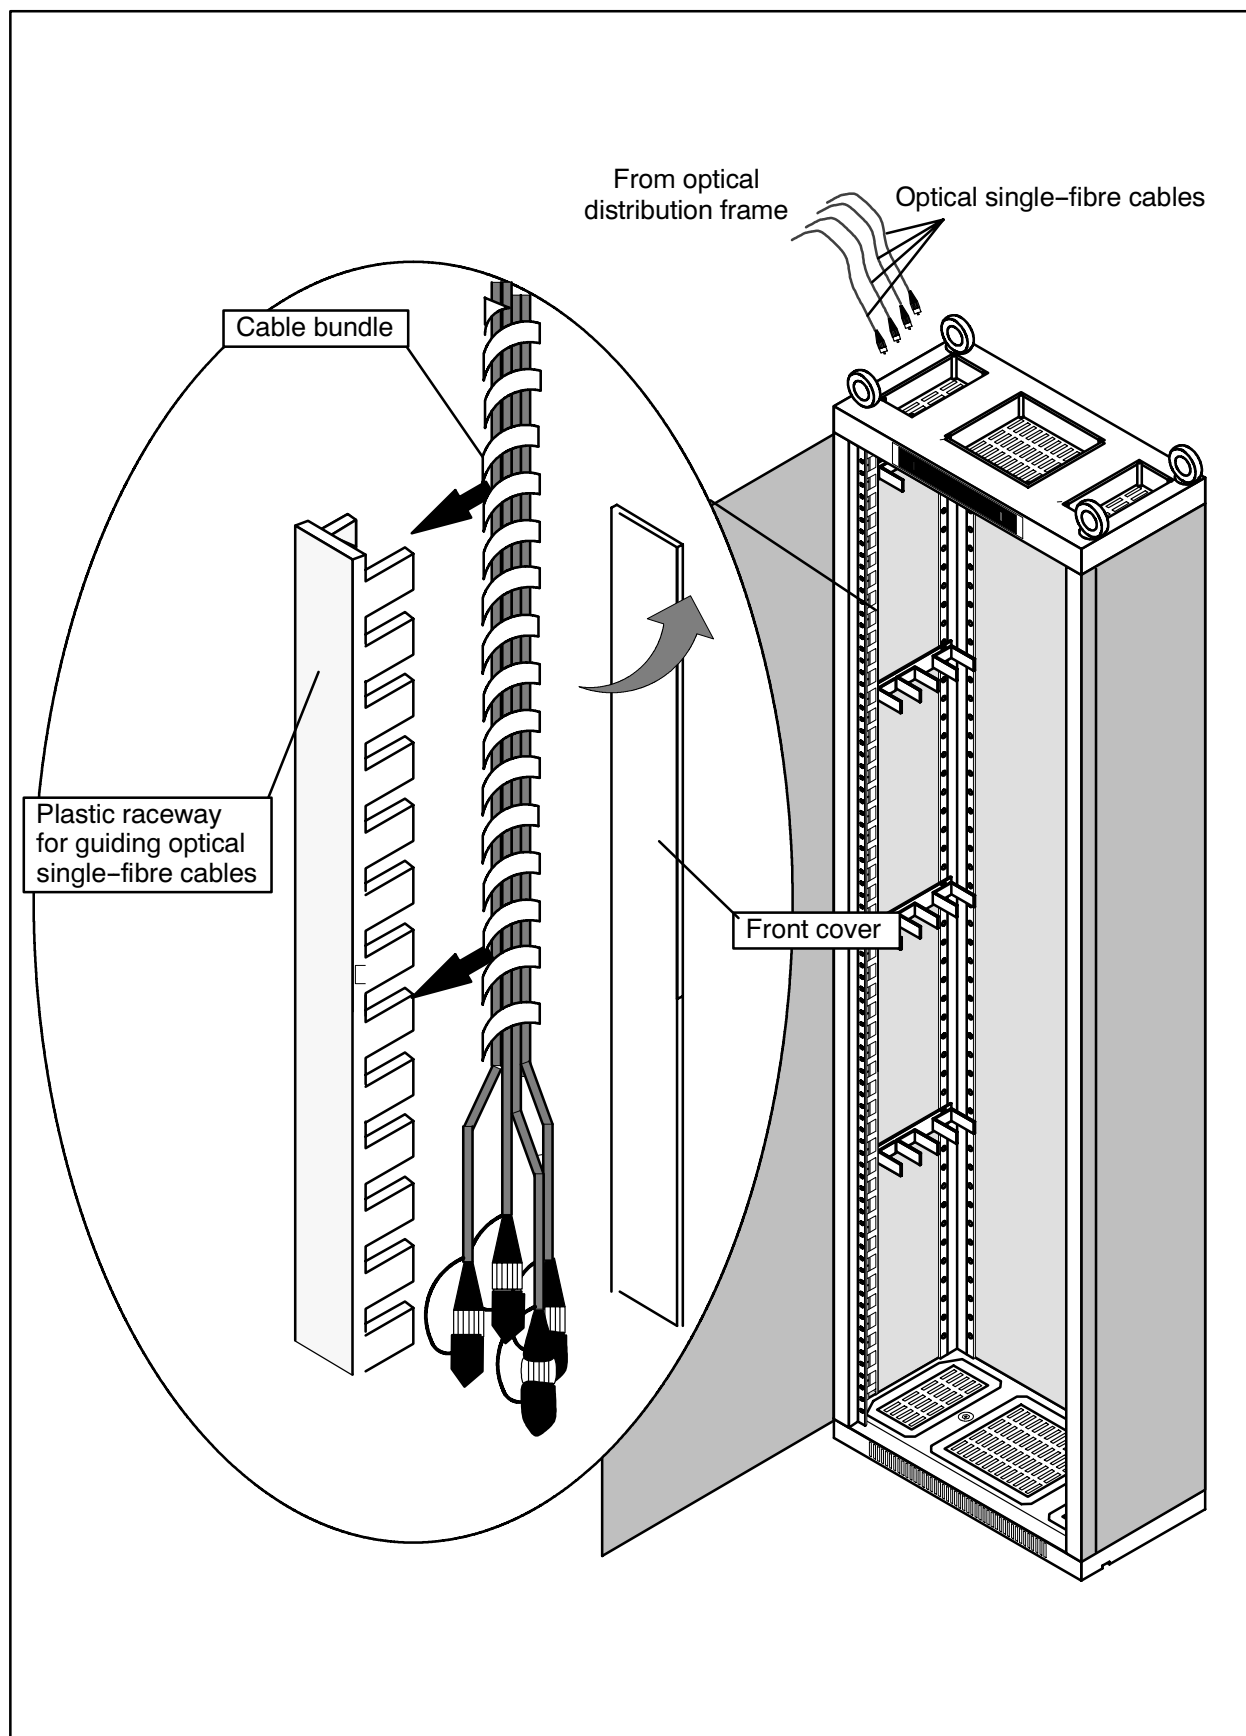

Fig. CC-24 Installation of optical single-fibre cables – entry through top opening
1. Thread the cable in the rack through the left-hand opening, on the top or in the base depending on how the cables have been laid. Fig. CC-24 shows, exemplifies entry o.f. cable through the top opening.
4. Insert the cable bundle into the raceway (see Fig. CC-24).